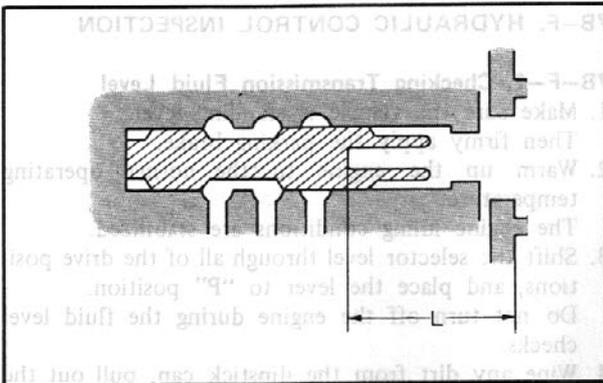

Fig. 7B-60
From the table below, select the bearing race (Fig. 7B-57 ②) of the thickness that will allow specified end play.
With the vacuum throttle valve fully pushed, measure the depth of the throttle valve bore ("L" shown in Fig. 7B-60).